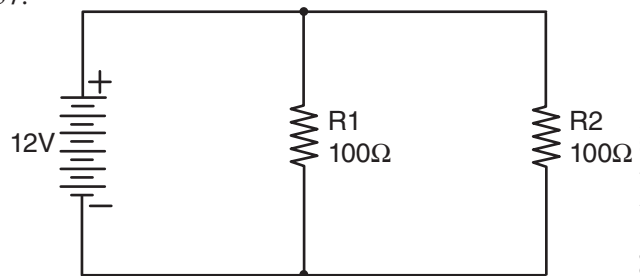

Figure 2-57
12. Solve for the following values shown in **Figure 2-57**: